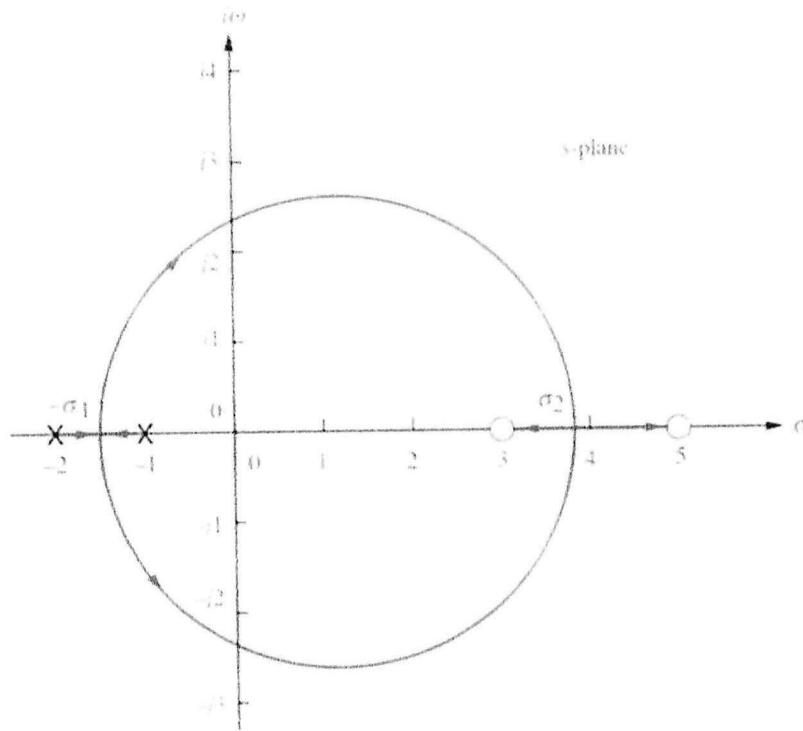

Figure Q4(b)
- (b) Based on root locus sketch in **Figure Q4(b)**,